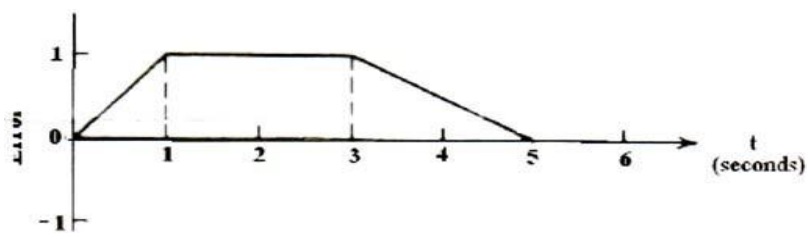

Figure 3
- Q.11 Derive the transfer function between output  $\theta$  and input  $\tau$  for the single DOF rotational system shown in Figure 3. 8
- rotational system shown in Figure 3.
- Q.10 Figure 3 shows an error time graph. Sketch the PID controller (series form) output w.r.t. time. Assume  $K_p=10$ ,  $K_i = 2$ ,  $K_D= 0.5$  and  $P_0=0$  i.e the controller output is zero when the error is zero.